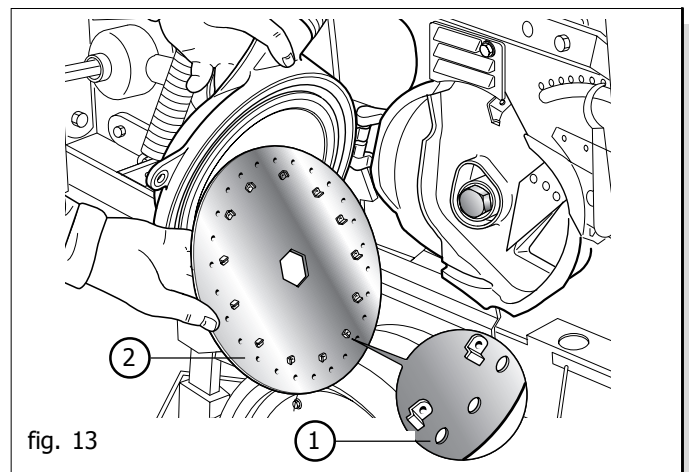

fig. 13
A plate (Fig. 13), **chosen according to the size of the seed**, is installed inside the distributors (the seed should not be able to enter the hole). Should suction cause some seeds to clog the holes of the plate, these will be left on the ground. The seeder is delivered to the customer with a single set of plates already installed on the distributors. The Manufacturer can supply the client with further sets of plates. (see page 32).
- The plate must be assembled with the pegs (2 - Fig. 13) pointing towards the inside of the distributor.